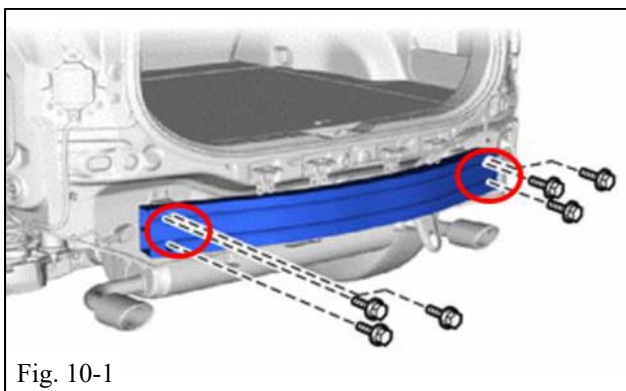

Fig. 10-1
- (a) Remove the (6) bolts (Fig. 10-1).